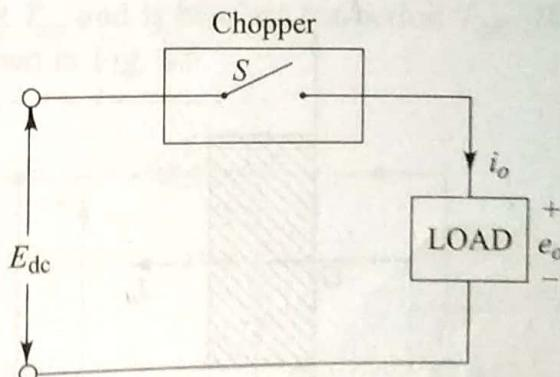

Fig. 8.2 Basic chopper configuration
(3) **DC Chopper (d.c. to d.c. power converters)** A d.c. chopper is a static device (switch) used to obtain variable d.c. voltage from a source of constant d.c. voltage, Fig. 8.2. Therefore, chopper may be thought of as d.c. equivalent of an a.c. transformer since they behave in an identical manner. Besides, the saving in power, the d.c. chopper offers greater efficiency, faster response, lower maintenance, small size, smooth control, and, for many applications, lower cost, than motor-generator sets or gas tubes approaches.